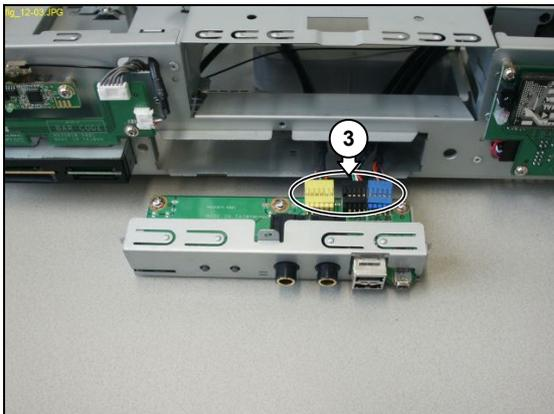

Figure 12.11-3
9. Disconnect all cables (3) from the rear of the FP I/O board. See Figure 12.11-3.